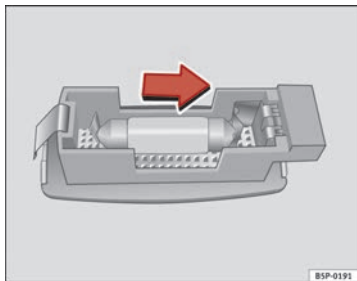

Fig. 204 Removing sun visor light
- Carefully remove the lamp, using the flat side of a screwdriver, as shown in the figure ⇒ fig. 204.
- Remove the bulb, moving it in the direction of the arrow and outwards ⇒ fig. 204.